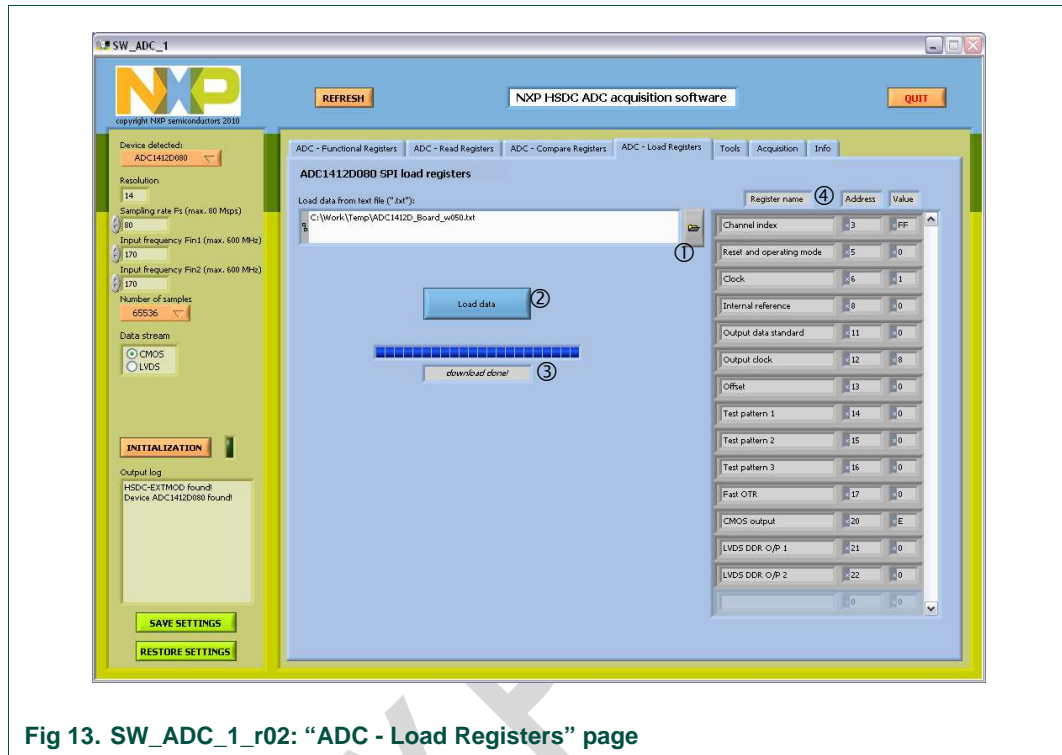

Fig 13. SW\_ADC\_1\_r02: “ADC - Load Registers” page
- Browse to select your file (button ①);
- Click on “Load data” button ②.
A message on field ③ and a progress bar will inform about the status of the operation until message “download done!” is seen. The table ④ is updated with the current values downloaded at the fly as can be seen on figure 13.